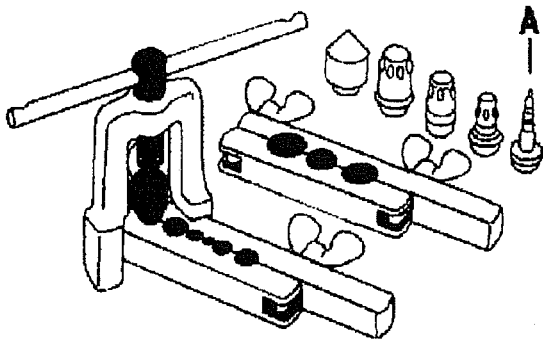

FIGURE 1
2. Select the proper size swaging spreader and screw it on to the yoke screw. Place a drop of oil on the spreader. Note that the small spreader (see "A" Fig. 1) takes care of 3 sizes 3/16", 1/4" and 3/8" O.D. tubing. There is a separate spreader for every other size.